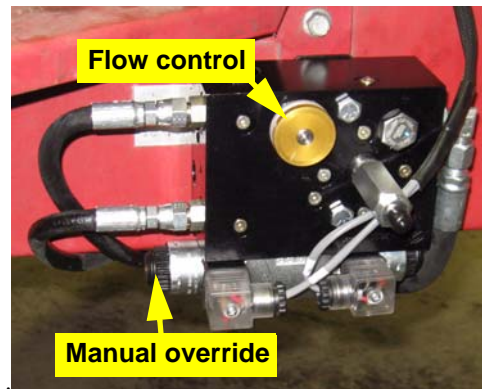

Figure 10: Steering block manual override and flow control
- Turn counter clockwise to increase flow. (Figure 10).
- e. The coils on the Automated Steering Block have manual push button overrides. Push either manual override to move the steering wheels all the way to one extreme (Figure 10).
- f. While pressing the override button of the other coil, count the number of seconds for the steering wheels to move all the way in the opposite direction (Figure 10).